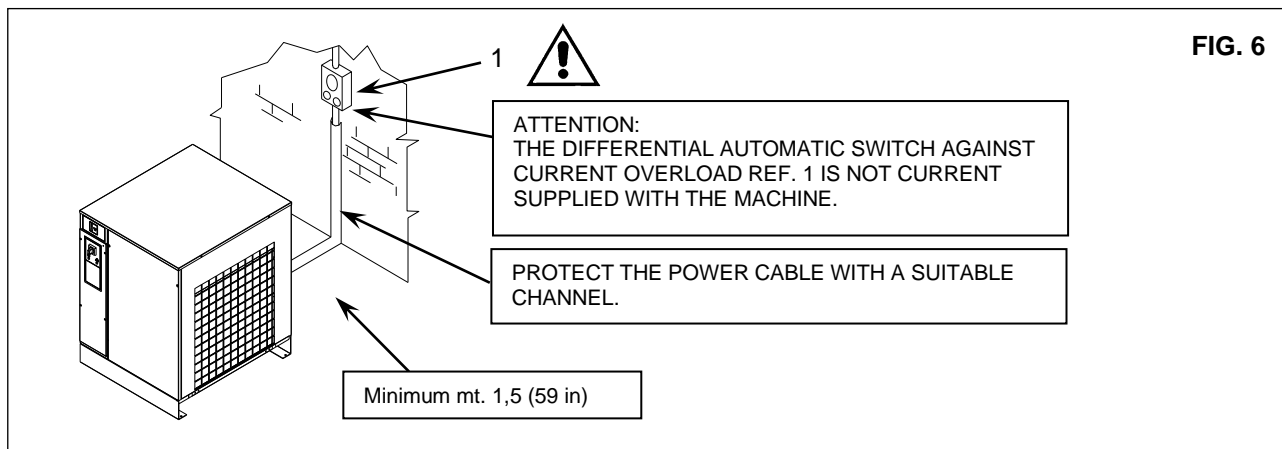

FIG. 6
- ensure that there is sufficient space around the machine to allow maintenance (see Fig. 6).
- **Ensure that there is an automatic cut-out device upstream for the machine against overcurrents, with a differential device (Ref. 1 Fig. 6), wiring diagram.**